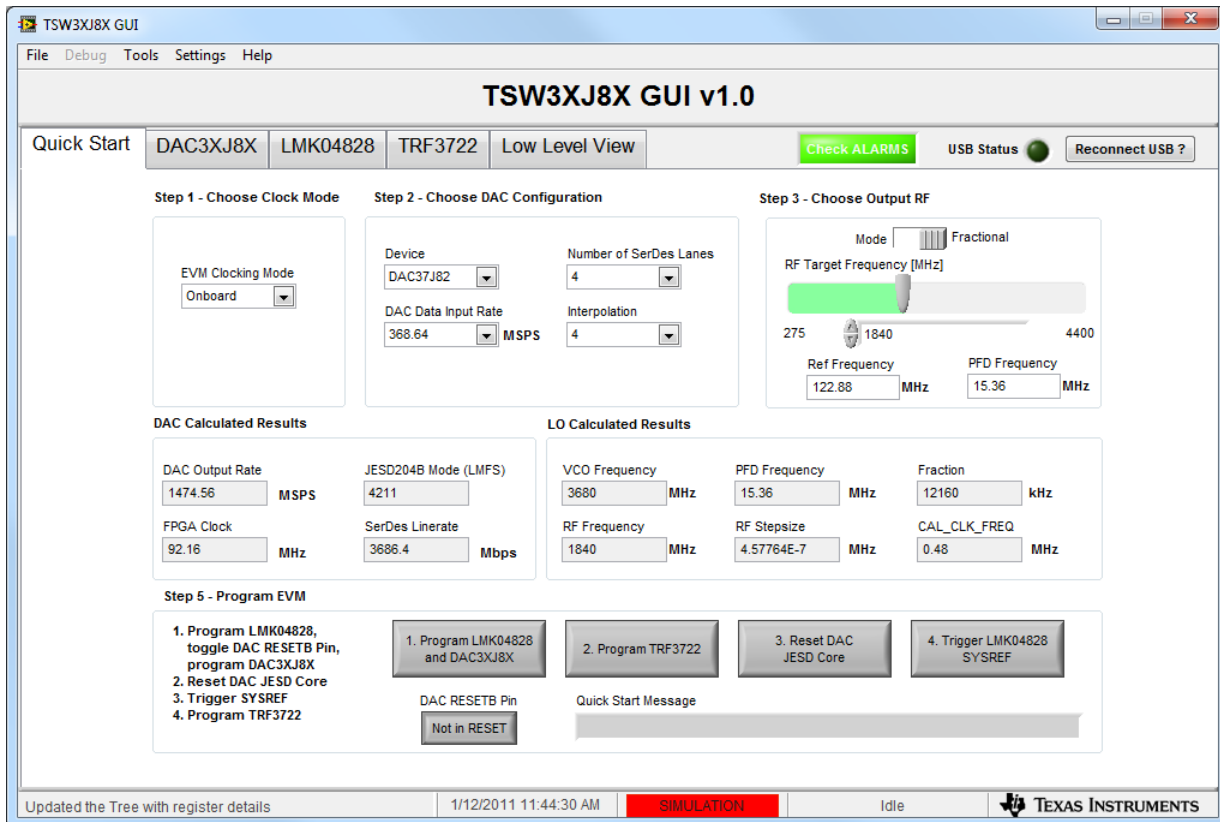

Figure 8. TSW3XJ8X GUI Configuration for DAC37J84 and DAC38J84
3. On the *Quick Start* tab, setup the controls as shown in Figure 8. For the dual-channel DAC3XJ82 choose "2" for the number of SerDes lanes. This configures the TSW3XJ8X EVM to use clocks generated onboard by the LMK04828 and 122.88 MHz VCXO. The DAC will be programmed for 1 lane per DAC, 4x interpolation, and an input data rate of 368.64 MSPS. The TRF3722 will be configured for an LO frequency of 1840 MHz.